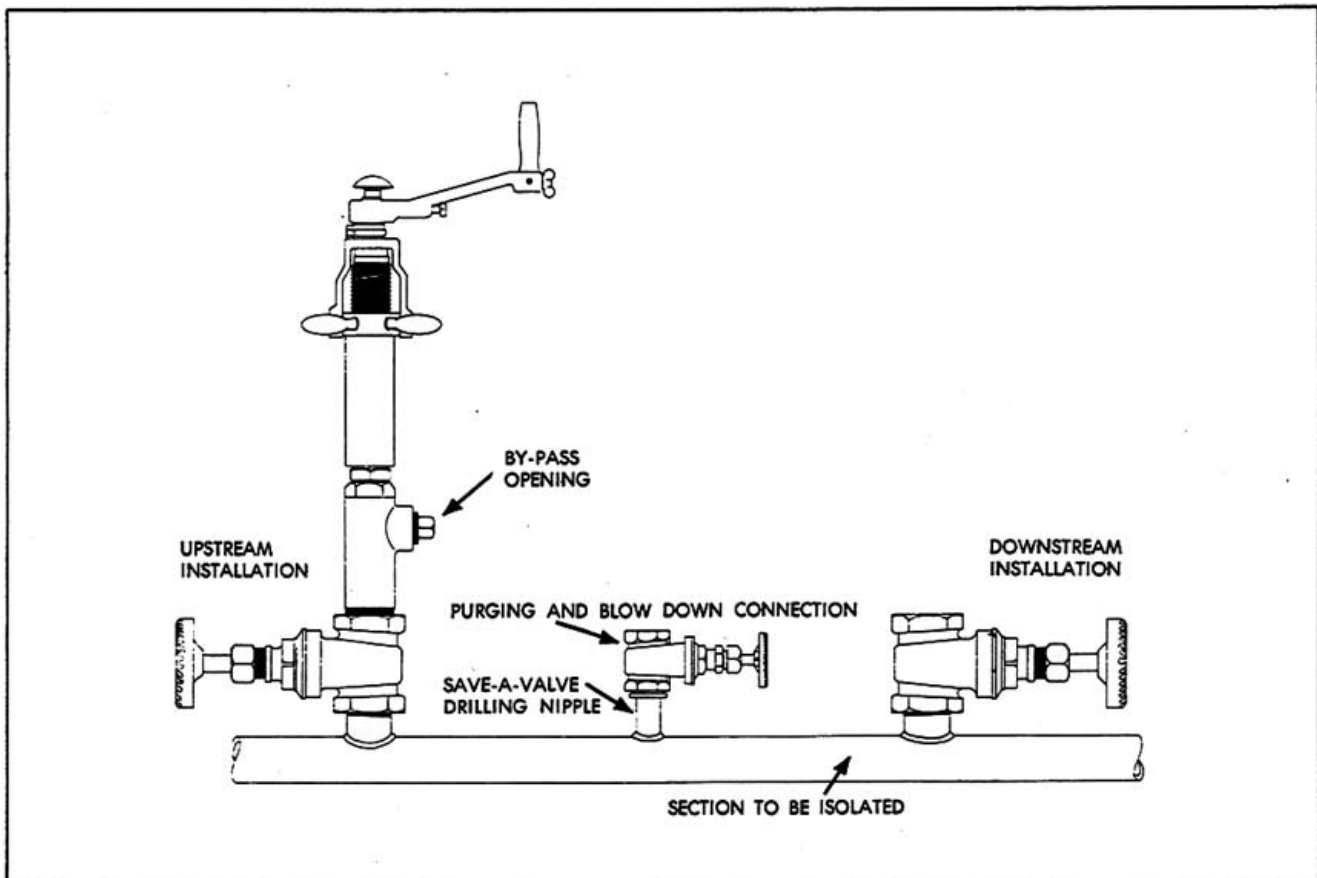

FIGURE 12
1. Drill out the pipe through the fittings as described under D1 through D17, page 8. See FIGURE 12.